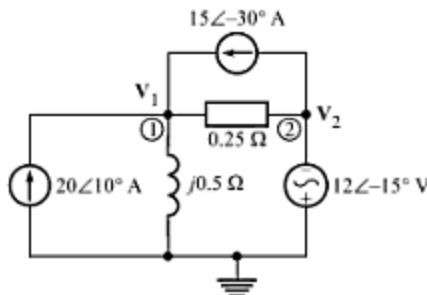

Fig. C-79
- C-132.** Find the node voltages in the circuit shown in Fig. C-79. [Ans.  $-3.59\angle -5^\circ$  V,  $-12\angle -14^\circ$  V]